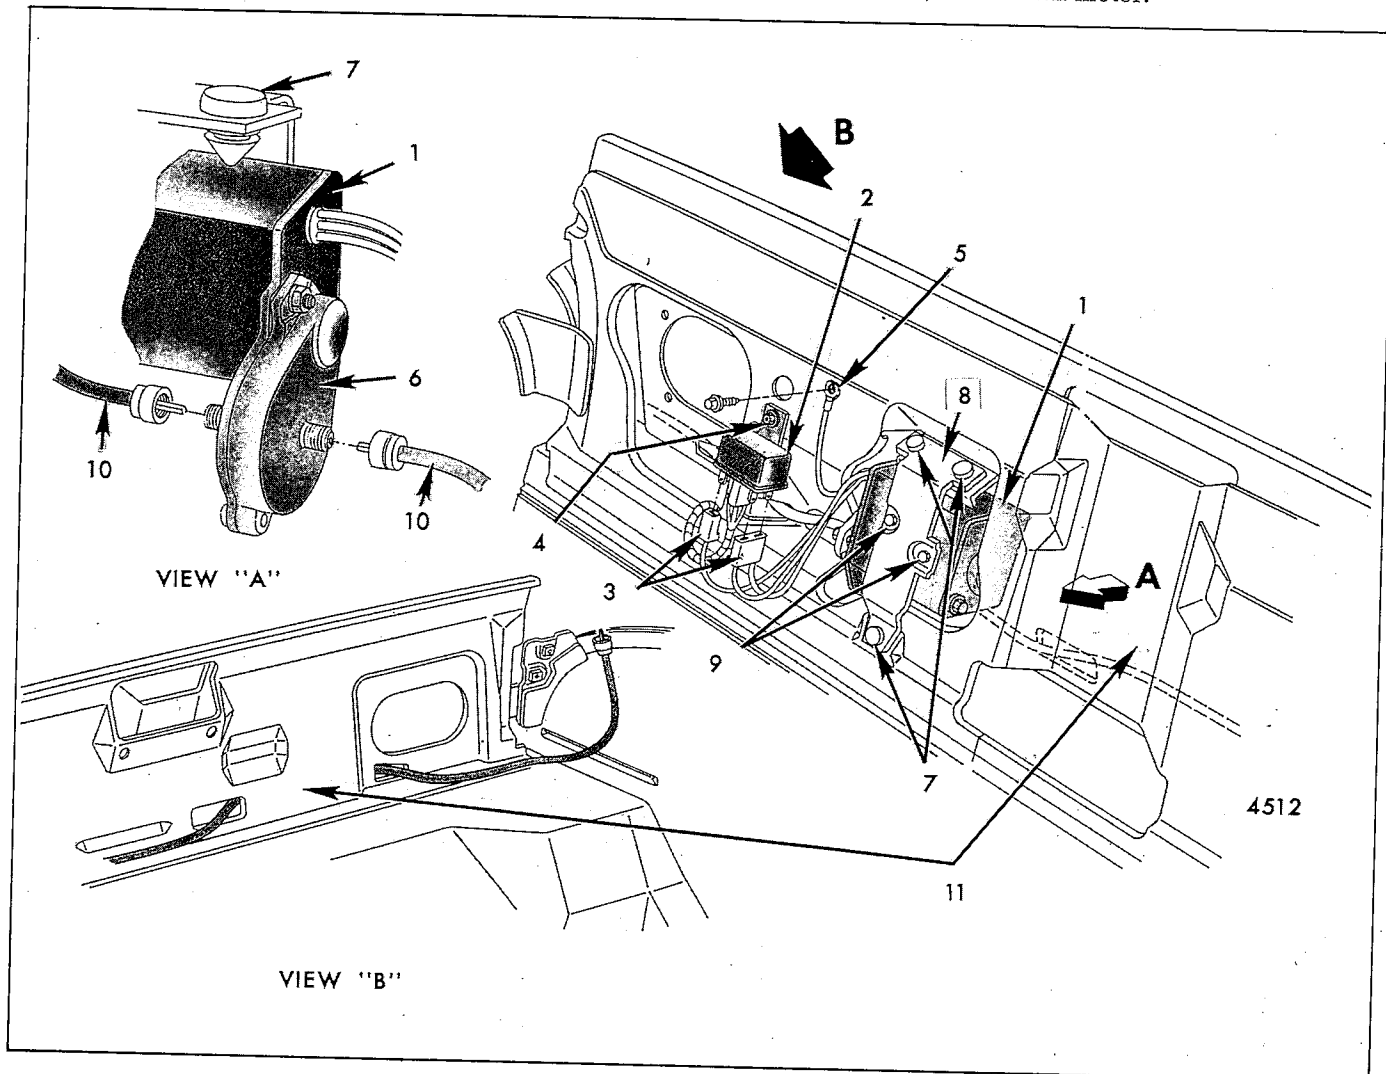

Fig. 17-Folding Top Electric Motor and Relay
3. Detach electric motor connectors from relay (Fig. 17).
6. Detach rubber grommets securing motor support to rear seat back panel (Fig. 17).
7. Detach right and left drive cables from electric motor reduction unit (Fig. 17).
3. Detach right and/or left drive cable at electric motor reduction unit (Fig. 17). For removal of left drive cable, first detach motor.